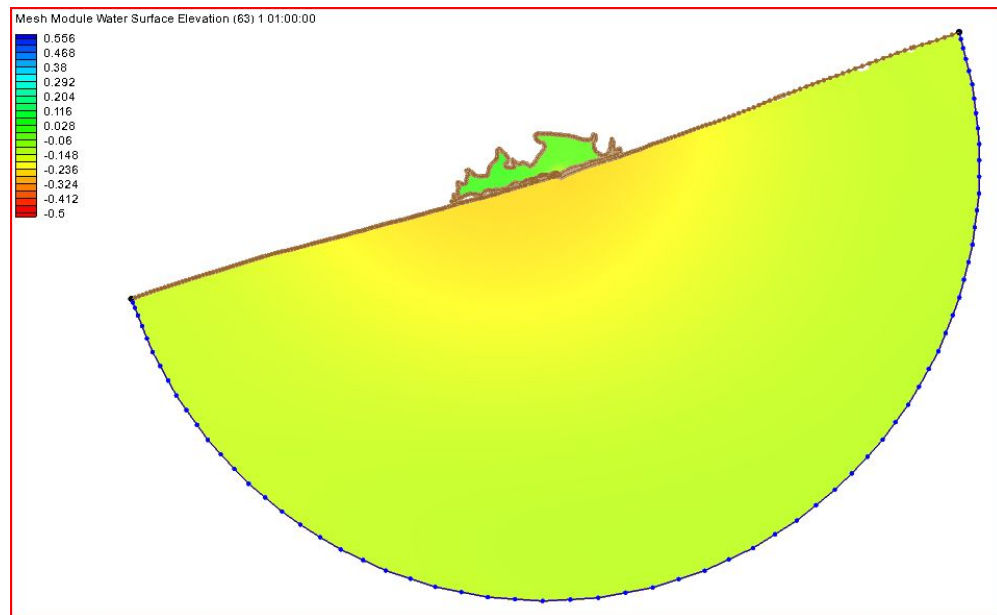

Figure 6 ADCIRC output from the "fort.63" file.
6. Click OK to exit the dialog box, and SMS will redraw the screen similar to Figure 6 (it will look about the same for the Time step 1 1:00:00).